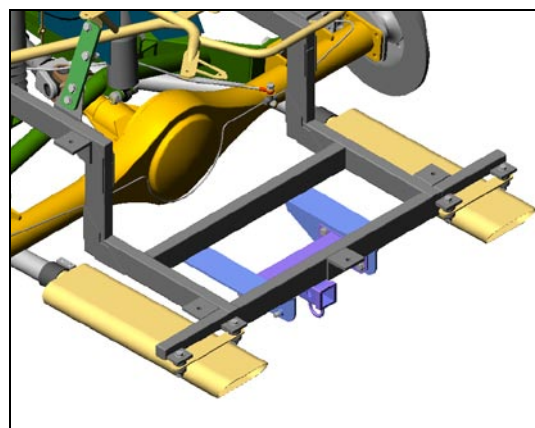

Figure 46
- a. Install muffler inlets to Extension tubes using supplied Champion Exhaust Clamps. Do not tighten at this time. Figure 46